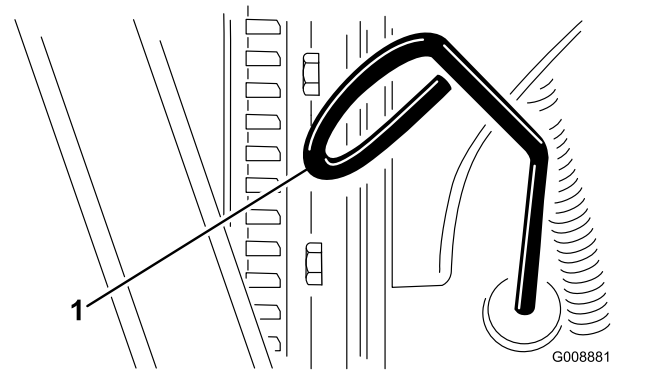

Figure 37
2. Remove the dipstick (Figure 37) and wipe it with a clean rag.